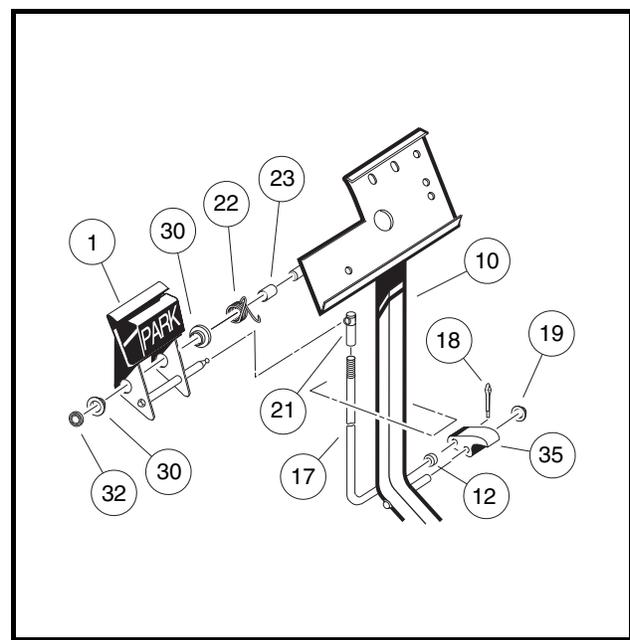
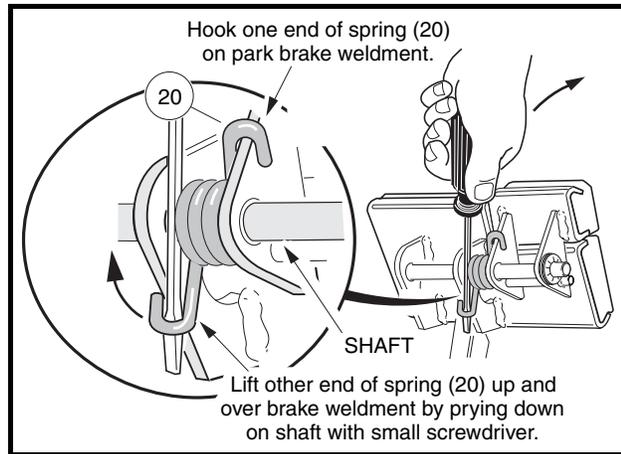

Figure 5-4 Park Brake Assembly
Figure 5-5 Torsion Spring Installation
NOTE: New push nuts (19) and (32) must be used when reassembling the park brake (**Figure 5-4, Page 5-4**).
- 3.2. To remove the park brake pedal (1), remove the push retainer nut (32), disconnect the torsion spring (22) (**Figure 5-4, Page 5-4**) and slide the pedal off of the shaft. See preceding **NOTE.**
1. From the bottom side of the floorboard, insert the park brake rod (17) through the brake pedal assembly opening as shown (**Figure 5-4, Page 5-4**). Then install the park brake pawl (35) onto the shaft on the brake pedal assembly (10) and also insert the park brake rod (17) into the park brake pawl.
2. Install the push nut (19) on to the park brake pawl shaft.
3. Install the spacer (23) and torsion spring (22) on the park brake pedal shaft on the brake pedal assembly.
4. Install the two bushings (30) in the park brake pedal and position the park brake pedal on the shaft on the brake pedal assembly weldment (10) (**Figure 5-4, Page 5-4**). Then attach the ends of the torsion spring to the park brake pedal and to the brake pedal weldment as shown (**Figure 5-5, Page 5-6**).
5. Install the push nut (32) on the park brake pedal shaft (**Figure 5-4, Page 5-4**).
6. Connect park brake rod (17) with ball joint (21) to the ball stud on the park brake pedal assembly (**Figure 5-4, Page 5-4**).